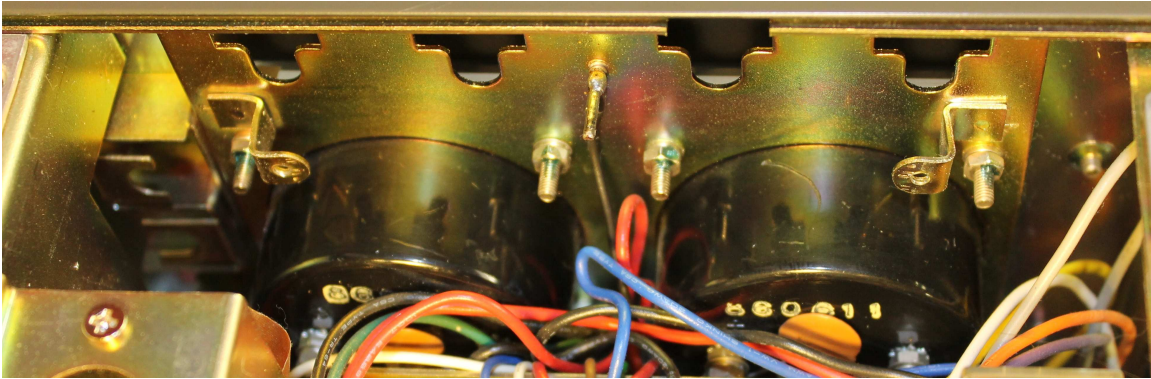

Figure 2.3: Panel with Illumination and Status Lamps Removed
When finished, the lamp area should appear as shown in Figure 2.3.
- Refer to Figure 2.3. There is an opening in the metalwork immediately above the “On-Air” lamp which provides access to the area directly over the top of the meters. Cut an $\approx 1.25\text{in}$ by 5in strip of the white diffuser paper and insert the paper strip into this opening, between the meter illumination LEDs and the meters. Inserting this “Diffuser” will provide uniform illumination of the meters and prevent bright spots.